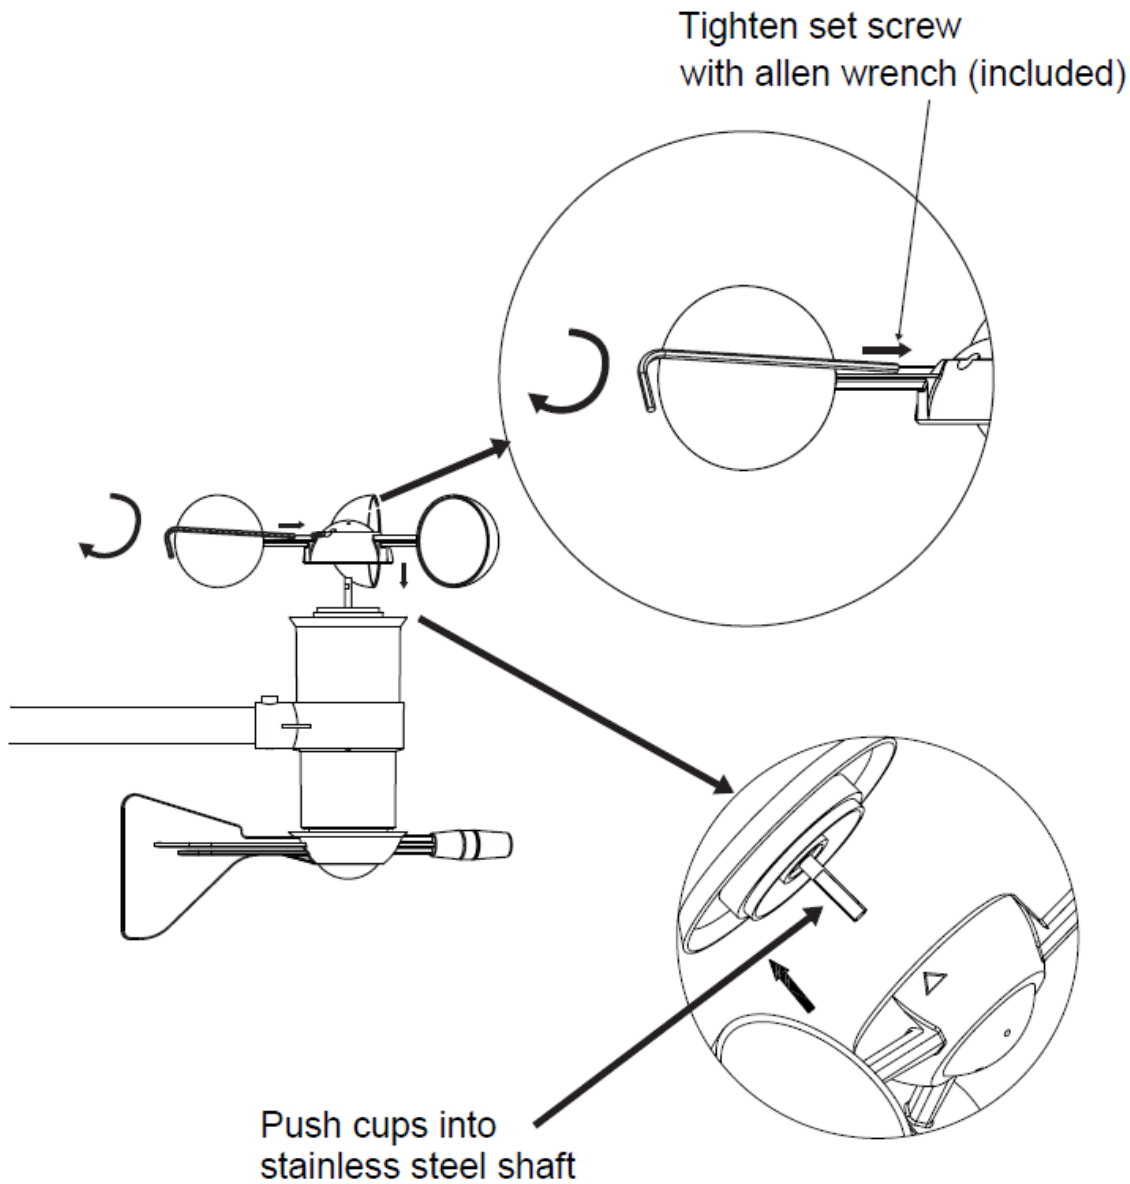

Figure 6
2. **Attach the wind cups to the anemometer assembly** (if necessary, some weather stations come pre-assembled). Push the wind cups into the anemometer shaft, as shown in Figure 6.
Tighten the set screw with the Allen Wrench (included), as shown in Figure 6. Make sure the wind cups spin freely.